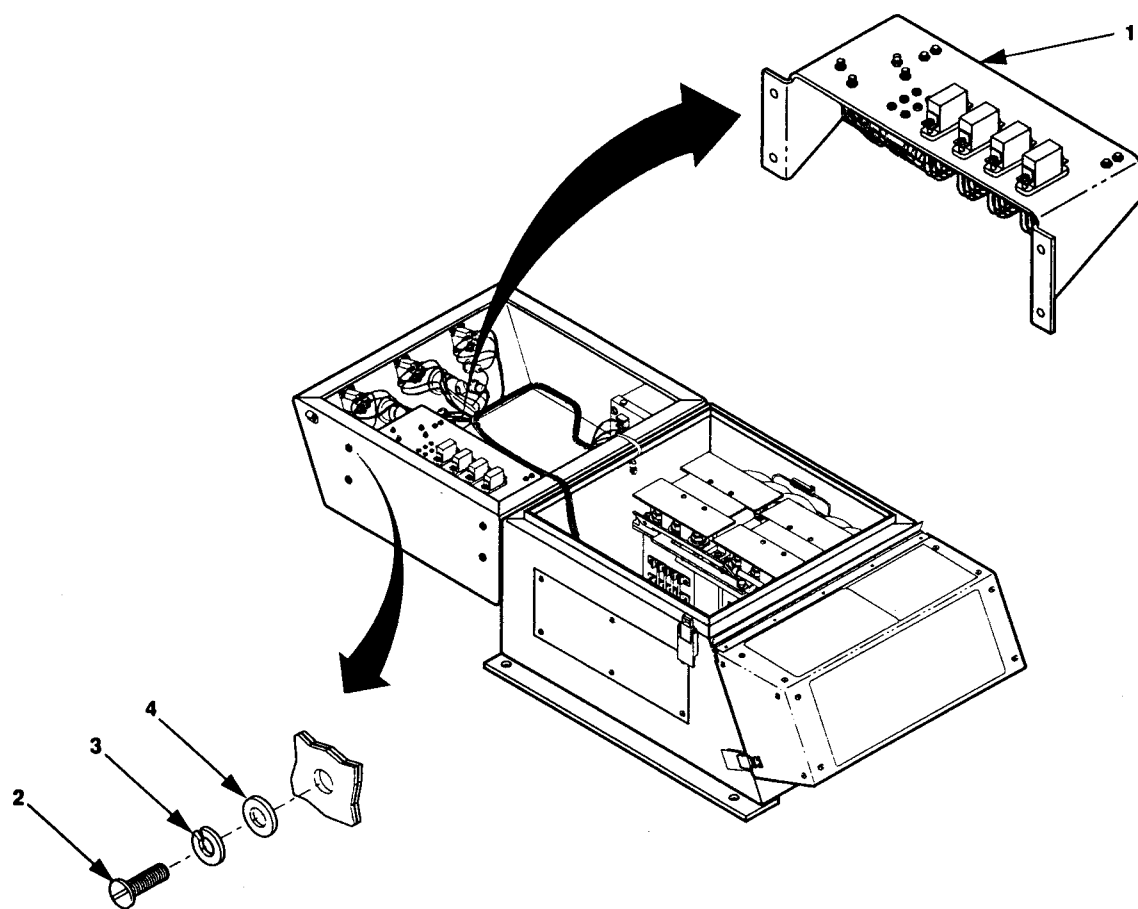

Figure 5-10. Switch Box Relay Board Assembly.
1. Remove four screws (2, figure 5-10), lock washers (3), and flat washers (4), and invert relay board assembly (1).